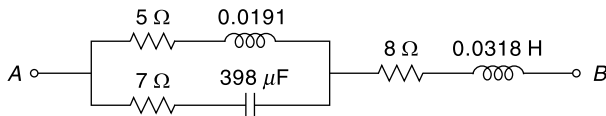

Fig. 5.41 Circuit diagram for Ex. 5.40
5.40 In the circuit shown in Fig. 5.41 determine what voltage of 50 Hz frequency is to be applied across AB that will cause a current of 10 A to flow in the capacitor?